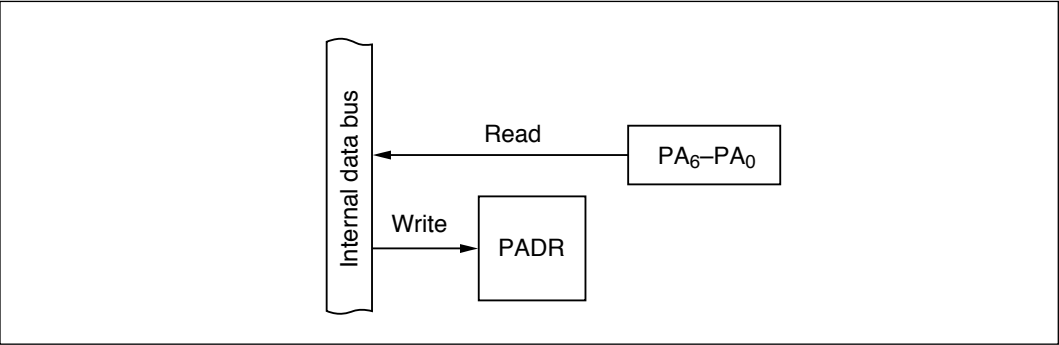

Figure 9-61 Input Port (Modes 1 to 7)
(1) Input Port (PA_6 to PA_4 in Modes 1 to 7; PA_3 to PA_0 in Modes 1, 2, 4, 6, and 7): Figure 9-61 shows a block diagram illustrating the general-purpose input function. Table 9-44 indicates register read/write data. Values written in the port A data register (PADR) have no effect on general-purpose input lines. When read, PADR returns the value at the pin.